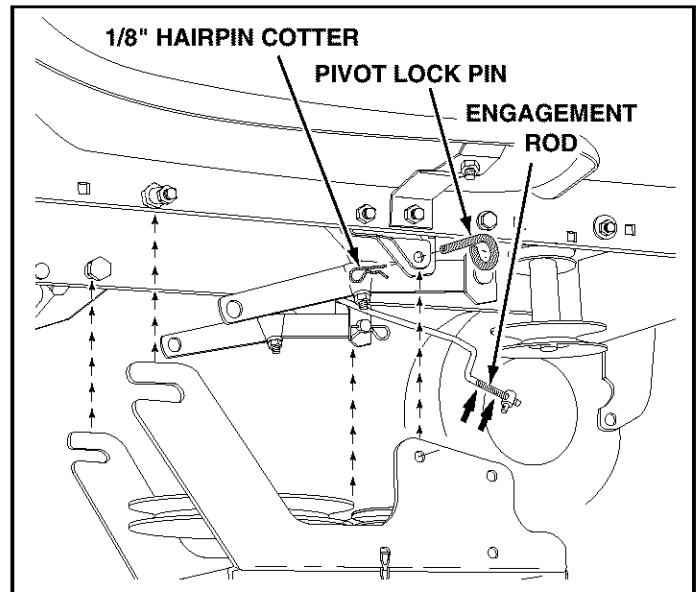

FIGURE 12 RIGHT SIDE VIEW
- Be sure to lift up the front end of the engagement rod (as shown in figure 12) when performing the next operation. You can temporarily support the rod using a rubber band tied to the engine pulley keeper.
- Attach the snow thrower's clutch/idler assembly to the tractor frame by sliding the assembly's notched arms onto the two shoulder bolts assembled to the inside of the tractor frame. Lift the front of the assembly and attach it to the R.H. and L.H. hanger brackets using two pivot lock pins and 1/8" hairpin cotters. See figure 12.